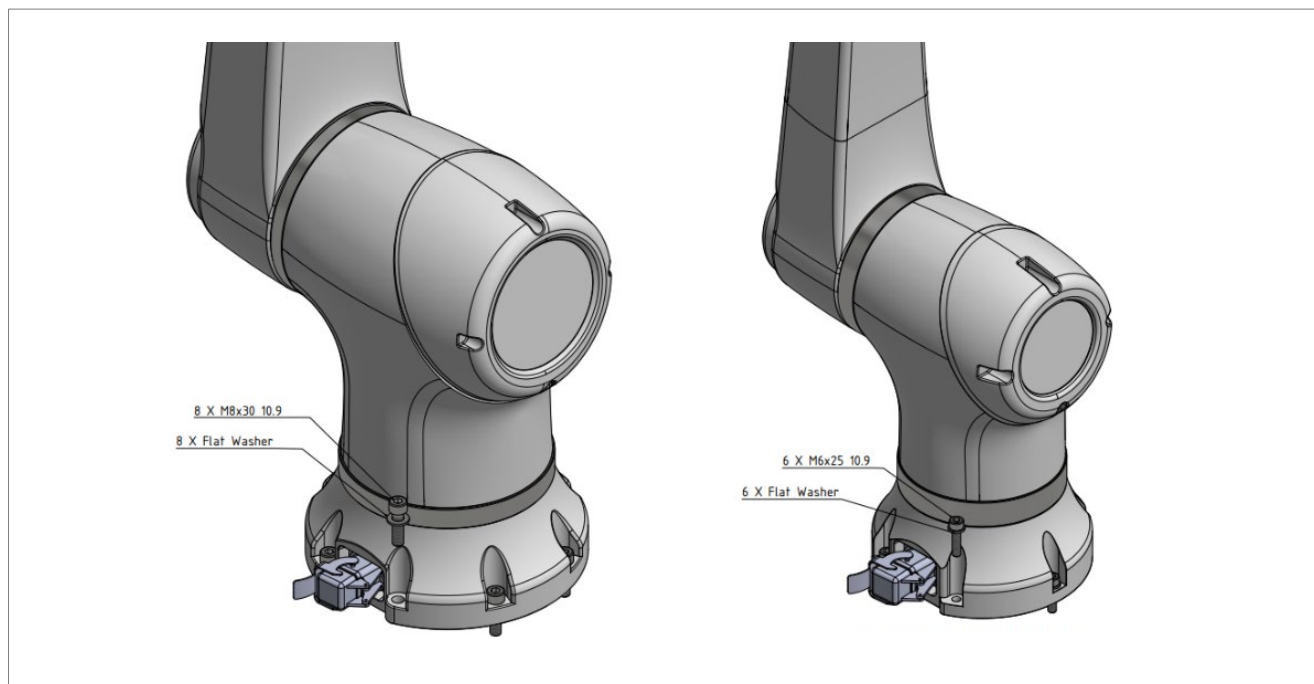

Fig. 15: Fixing points for CL1
- 📄 Use M6 screws (whose specifications meet ISO 898-1 performance level 10.9 or 12.9 mark) to fasten the CL103 and CL105 robots onto the mounting base with an allen key (see below Fig. 15:).
- 📄 Use M8 screws (whose specifications meet ISO 898-1 performance level 10.9 or 12.9 mark) to fasten the CL108 and CL110 robots onto the mounting base with an allen key (see below Fig. 15:).